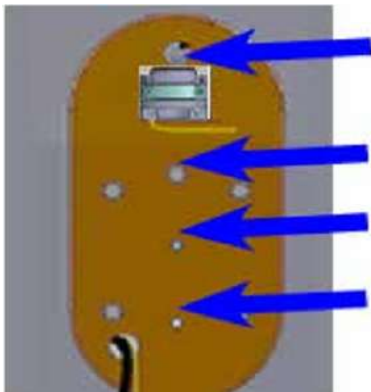

Figure 8
- Using level indicator check and adjust the level of the base plate as shown in Figure 7. Reconfirm the level and tighten all the wood screws using 17 mm box spanner as shown in Figure 8.